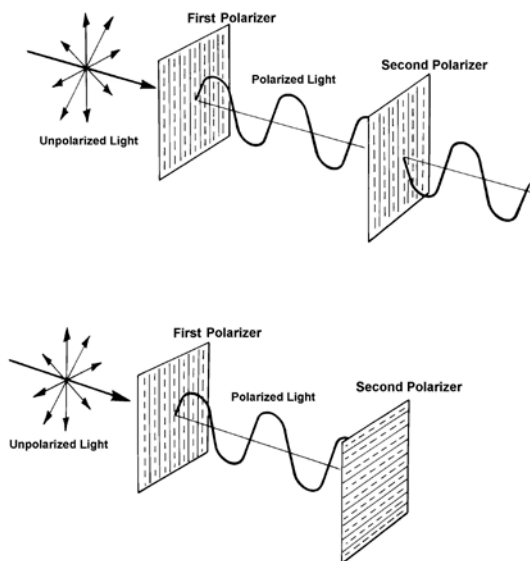

Figure 24 Polarizers Parallel (top) and Polarizers Crossed (bottom)
- If the second polarizer is placed in the same direction as the first (as at the top of Figure 24), the polarized light can pass straight through.
- However, if the second is placed at a right angle to the first, a situation which is referred to as *crossed polarizers*, the passage of the polarized light is blocked, that is, *extinction* occurs (as at the bottom of Figure 24).